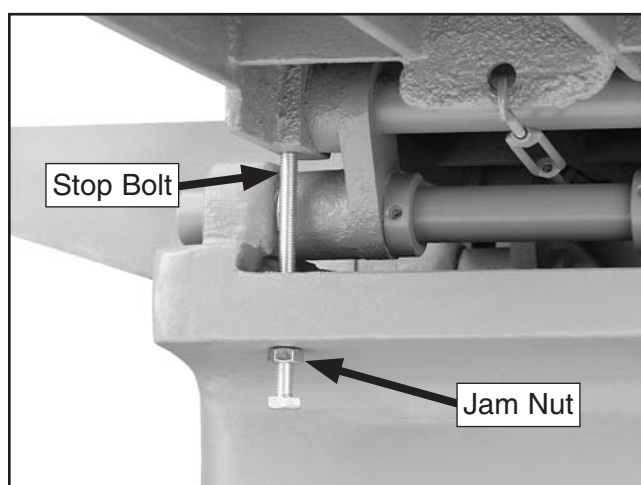

Figure 72. Outfeed table stop bolt (viewed from underneath the table).
12. Loosen the jam nut and adjust the outfeed stop bolt underneath the table so that it just touches the bottom of the tables, as shown in **Figure 72**, then re-tighten the jam nut.